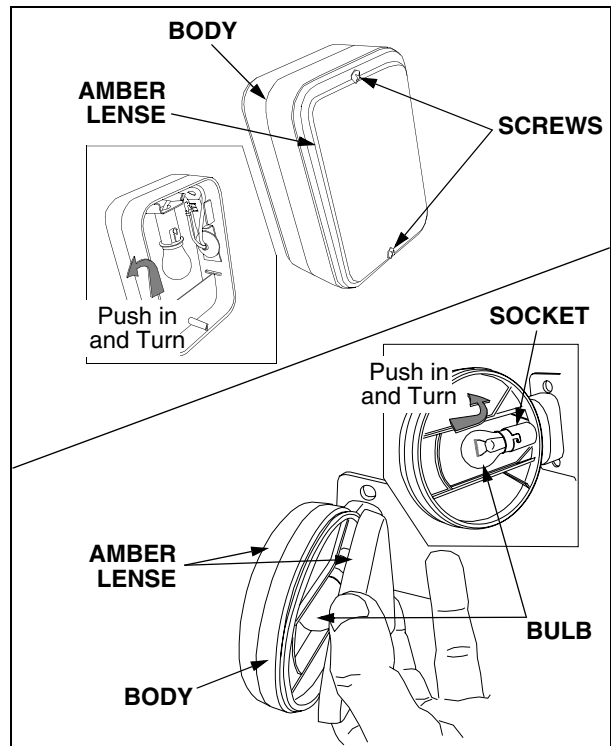

Figure 37
- **Round Hazard Light ONLY** — Insert a **thin** bladed screwdriver, or similar tool, between an amber lense and the hazard light body, then twist to separate the lense from the body. Refer to Figure 37.
- **Rectangular Hazard Light ONLY** — Remove the two screws from either the front or rear amber lense; then slide the lense out of the body. Refer to Figure 37.
- Push the bulb inward and turn counterclockwise, then pull the bulb outward to remove from the light socket. See Figure 37.